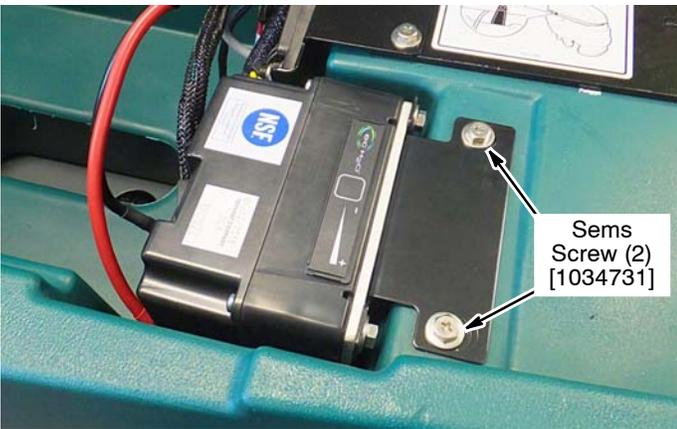

Fig. 37
4. Using two m6x1.00x16 sems screws, mount the ec-H2O module to the machine as shown (Figure 37).